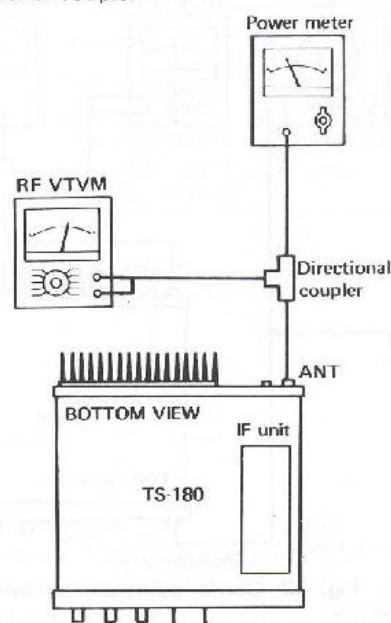

Fig. 4-1 Carrier Suppression Adjustment
- 1) Connect as shown in Fig. 4-1 and adjust at 14,200 MHz CW for full power.